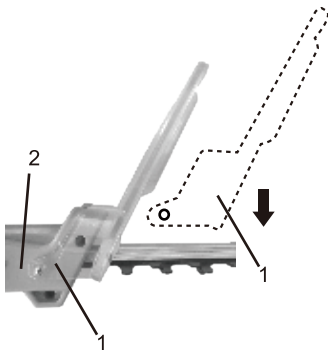

Fig. 7a
1. Slide the open end of the hand guard (1) down over the blade and back over the blade mount (2) (Fig. 7a).